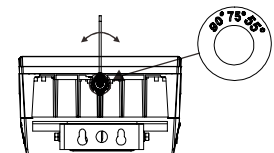

FIGURE 14
2. Adjust the handle to the desired Angle by turning it left and right, as shown in the picture (FIG 14)